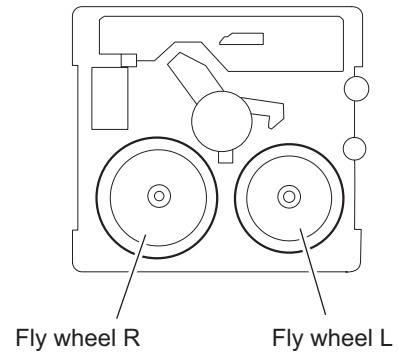

Fig.8
3.2.4 Removing the flywheel (See Fig.8, 9)